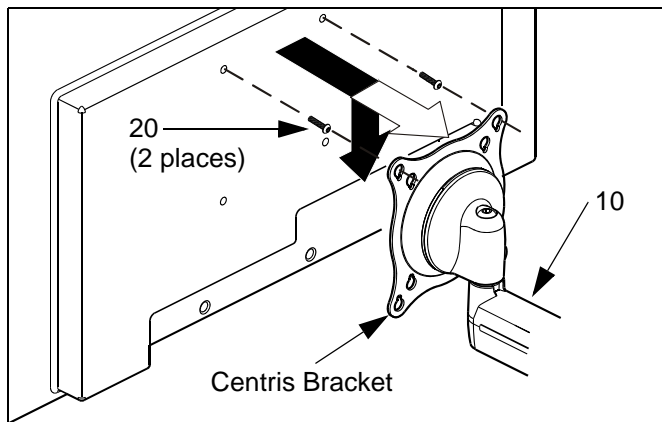

Figure 10: Single Display - Flush Mount
3. Using Phillips screwdriver, carefully install two screws (20) into the *upper* mounting holes on the display. Thread screws completely into display, then back out 3 complete turns.
4. Pick up and align display so that screws (20) (installed on the back of the display in the previous step) fit into the mounting holes on the Centris bracket; rotate the bracket as required (See Figure 10). Lower the display firmly into place.